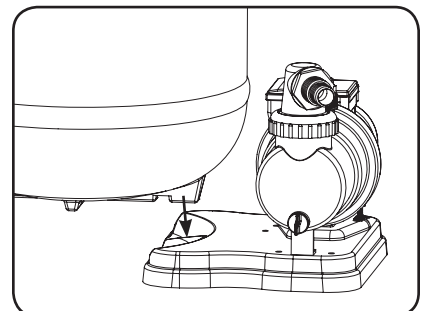

Figure 5
3. Place the filter tank into the corresponding groove located in the filter base plate. See Figure 5.